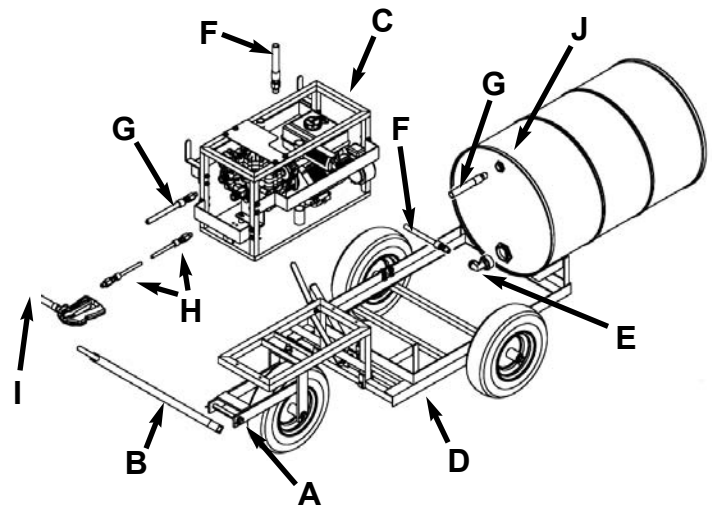

Fig. 3
NOTE: Your sprayer and components may differ from the one shown in Fig. 3. This will depend on what model you order.
NOTE: WHEN USING THE TOW CART, BE SURE THAT THE LARGER HOLE OF THE BARREL IS ON BOTTOM. THIS HOLE IS FOR SUCTION. WHEN INSTALLING THE BYPASS HOSE (G) INTO THE SMALLER HOLE, LEAVE A LITTLE LOOSE. IF NOT, POKE OR DRILL A HOLE (J) THE BARREL. THIS WILL HELP AIR FLOW. IT WILL ALSO PREVENT THE COLLAPSING OF THE BARREL (Refer to Fig. 3)